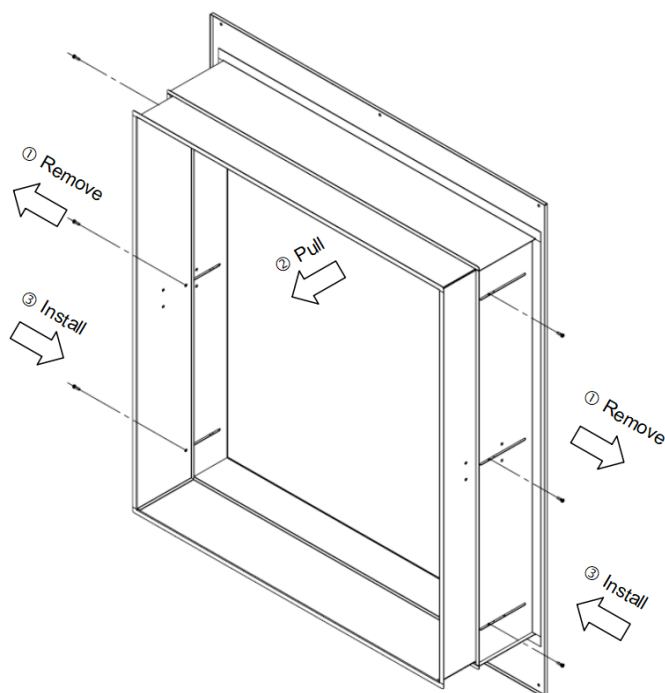

Figure 3-4 Configuring Wall Sleeve
3.3.5.1 Install Figure 3-4 Configuring Wall Sleeve